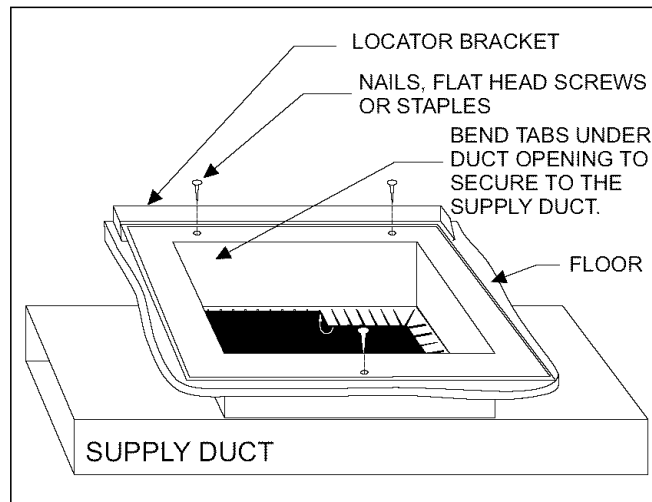

FIGURE 8 : DUCT CONNECTOR TAB ATTACHMENT (7990 SERIES)
3. Place locating bracket (supplied with the duct connector) to the rear of the floor area for the furnace. See Figure 8.